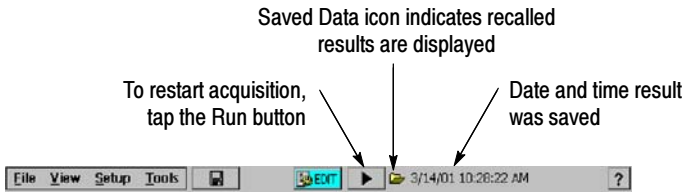

Figure 3-69: Example of a Recalled Result display
3. Select the results file to recall and tap **OK**. The Cammand bar shows results information. See Figure 3-69.